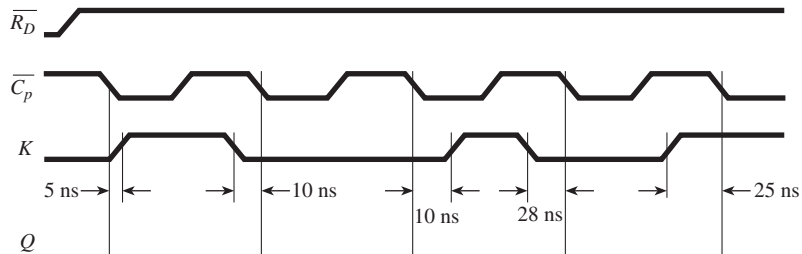

Figure P2
2. Repeat Problem 1 for the waveforms shown in Figure P2.